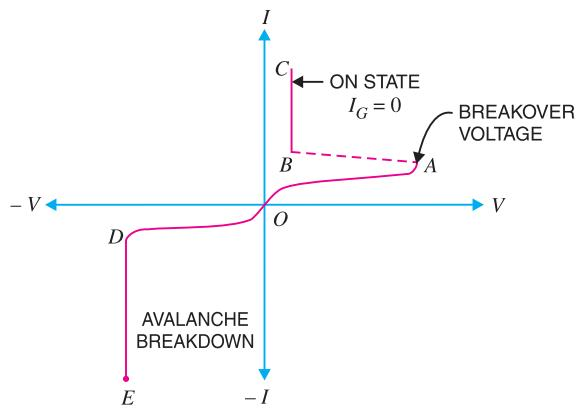

Fig. 20.7
It is the curve between anode-cathode voltage (V) and anode current (I) of an *SCR* at constant gate current. Fig. 20.7 shows the V - I characteristics of a typical *SCR*.
(i) Forward characteristics. When anode is positive *w.r.t.* cathode, the curve between V and I is called the forward characteristic. In Fig. 20.7, *OABC* is the forward characteristic of *SCR* at $I_G = 0$. If the supply voltage is increased from zero, a point is reached (point *A*) when the *SCR* starts conducting. Under this condition, the voltage across *SCR* suddenly drops as shown by dotted curve *AB* and most of supply voltage appears across the load resistance R_L . If proper gate current is made to flow, *SCR* can close at much smaller supply voltage.